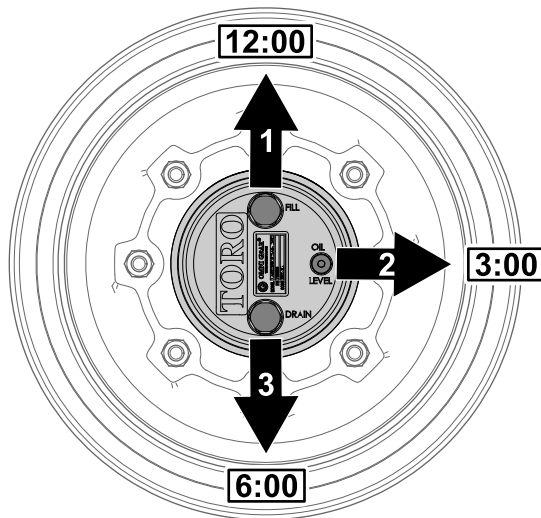

Figure 99
1. Park the machine on level surface, position the wheel so that the fill plug is at the 12 o'clock position, the check plug is at 3 o'clock position, and the drain plug is at the 6 o'clock position (Figure 99).
2. Remove the check plug at the 3 o'clock position (Figure 99).
1. Park the machine on level surface, position the wheel so that the fill plug is at the 12 o'clock position, the check plug is at 3 o'clock position, and the drain plug is at the 6 o'clock position; refer to Figure 99 in Checking the Planetary Gear-Drive Lubricant (page 66).